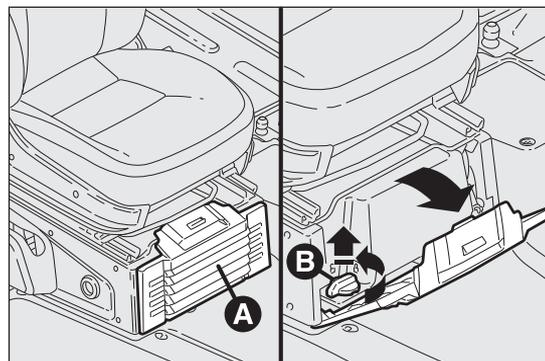
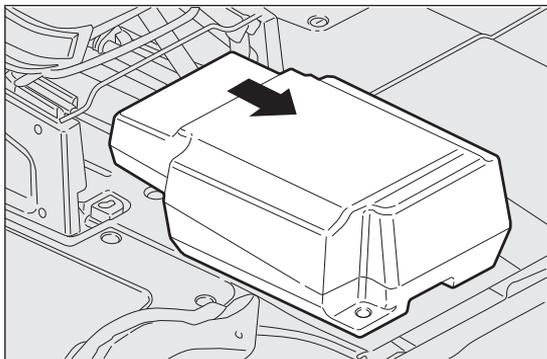

fig. 221
fig. 222
- Open the flap A and remove it as illustrated in fig. 221;
- turn retaining knob B anticlockwise and remove it fig. 221 to allow the box to come out fig. 222;